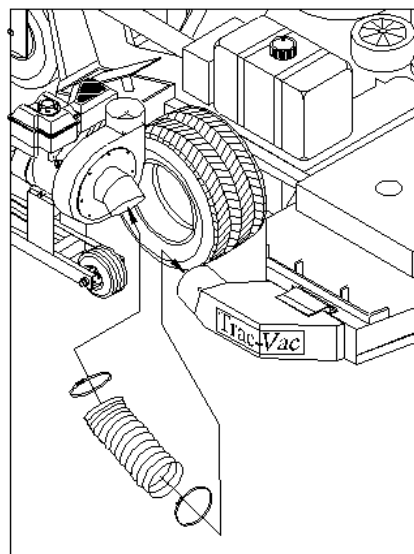

Fig. 16
16. Slip one end of 8 " x 30 " hose (27) over chute and secure with 8 " band clamp (28). Slip remaining end of hose over turbine inlet (6) and secure with 8 " band clamp. If necessary, trim off excess hose. **Fig. 16**